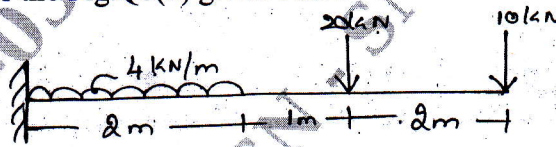

Fig.Q8(b)
b. Draw SFD and BMD for the Fig.Q8(b) given below.